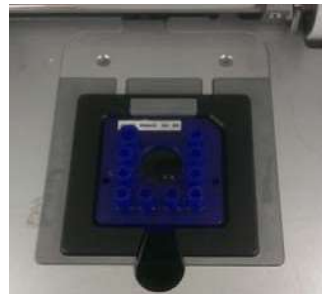

Figure 7. Chip in the LabChip GX Touch/GXII Touch instrument
- 4 Insert the chip into the LabChip GX Touch/GXII Touch instrument (Figure 7) and close the chip door securely.